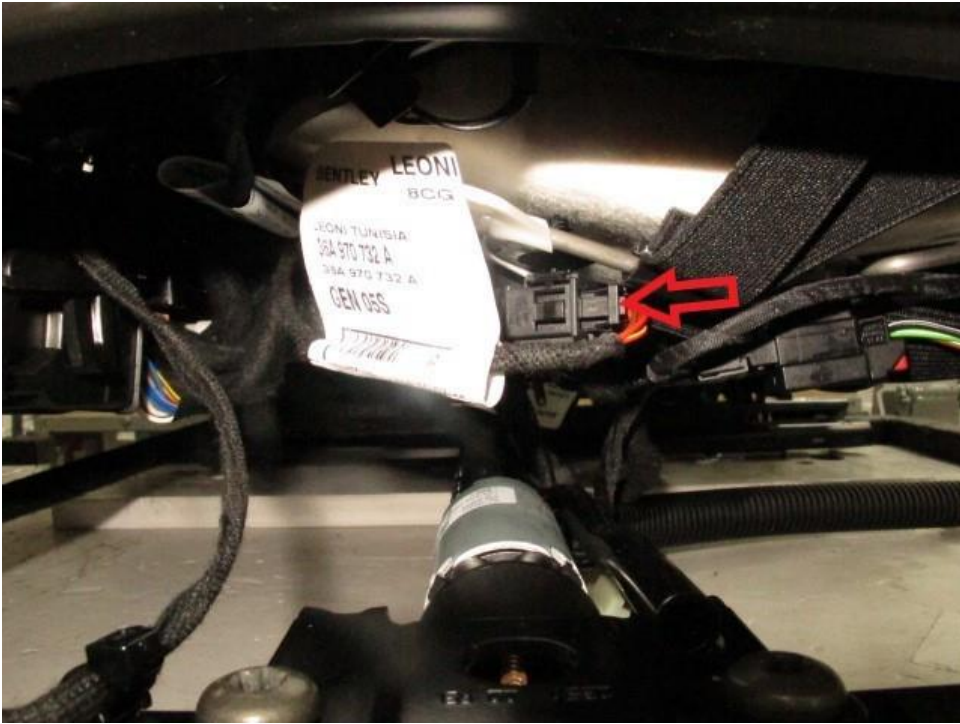

Figure 11
10) Referring to Figure 11 - Push/fit the connection until a "Click" is heard